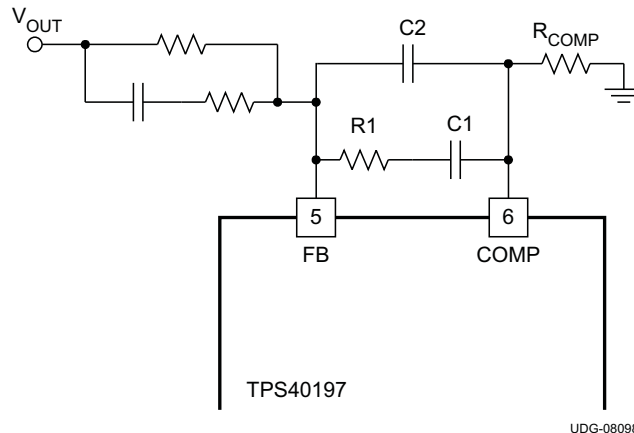

Figure 17. Short Circuit Threshold Feedback Network
- $R1$ and $C1$ are the values of the components in Figure 17